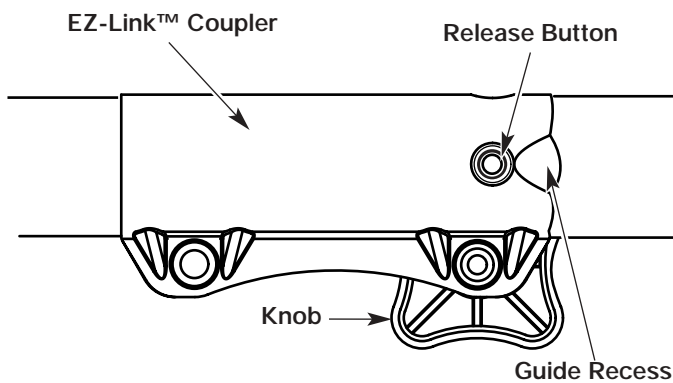

Fig. 19
1. Turn the knob counterclockwise to loosen (Fig. 19).
2. Press and hold the release button (Fig. 19).
1. Turn knob counterclockwise to loosen (Fig. 19).
**NOTE:** Aligning the release button with the guide recess will help installation (Fig. 19).